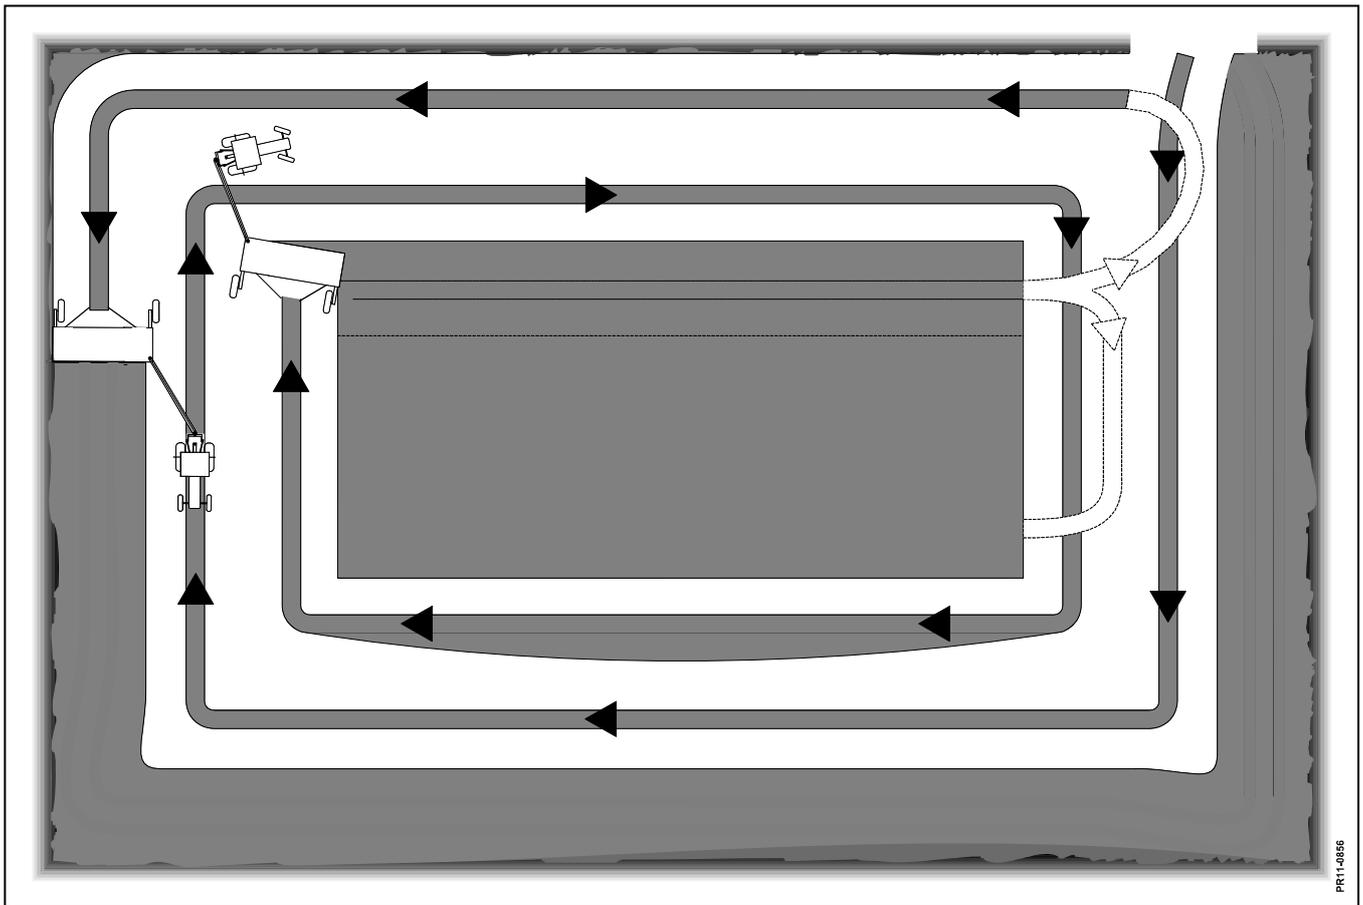

Fig. 3-2
**Fig. 3-2** Place the machine in working position. In this position you drive clock-wise for some rounds, so that there is space to turn at the end of the field. The pre-harvesting is ended with making swath of the outer turn, driving counter clock-wise. Then the field is ready to be harvested in one piece, or divided into sections as required. The speed varies from 6 - 19 km/h depending on the crop and the working conditions.